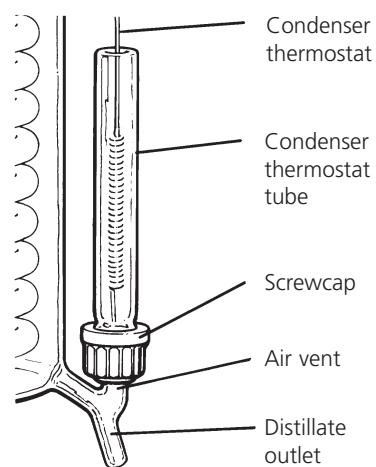

Figure 4
12. Assemble the condenser thermostat tube A515414 connecting cap QC18/11, silicone rubber ring QR18/7 as shown in **figure 4**.
If the cap is left loose the assembly may now be carefully slid over the air vent on the distillate outlet - **see figure 4**.